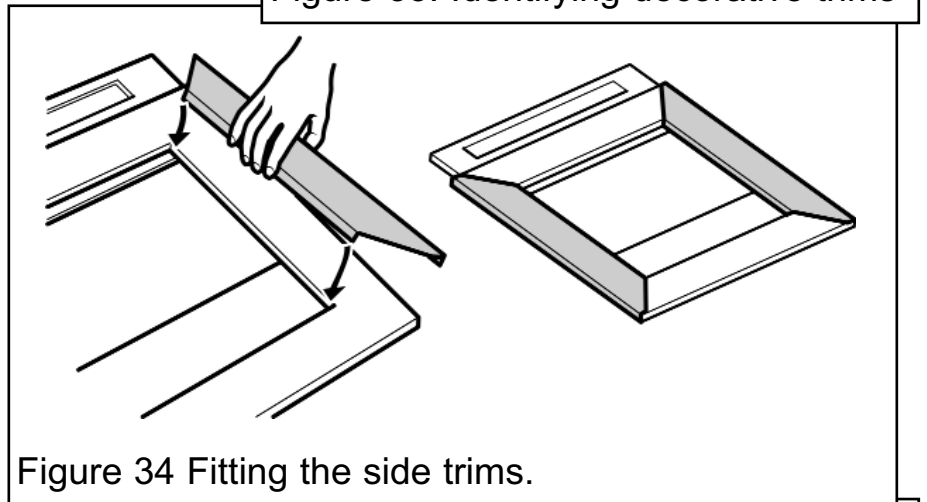

Figure 34 Fitting the side trims.
5. Locate the side trims as in figure 34.